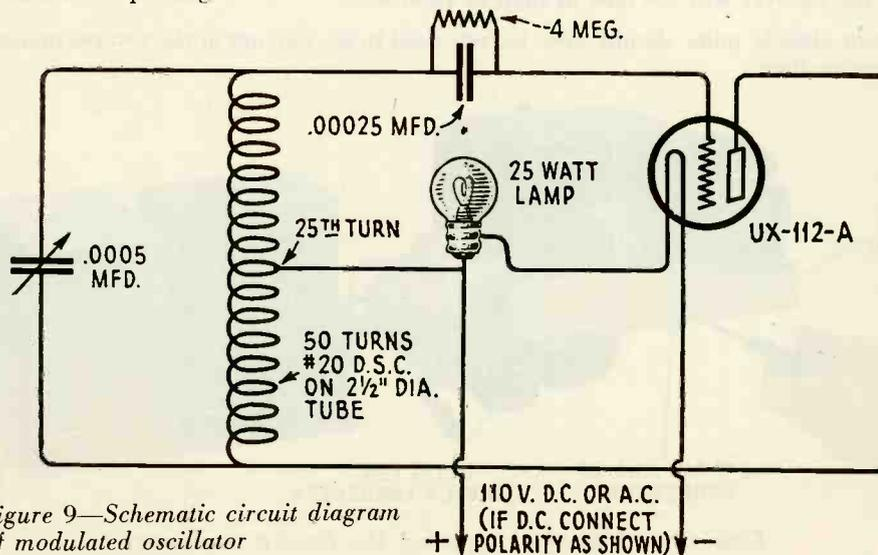

Figure 9—Schematic circuit diagram of modulated oscillator
- (b) Procure a modulated oscillator that will give a signal at 1500 K. C. and 600 K.C. or, if such an oscillator is not available, tune to a broadcast signal. The circuit diagram and electrical constants of a suitable oscillator are shown in Figure 9. If the oscillator is available, place it in operation at 1500 K.C. or tune in a signal of approximately this frequency.